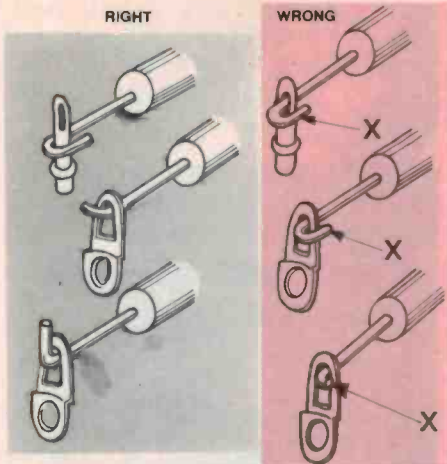

Figure 29. The best way to attach component leads to tags and terminals (left).
**Solder Tags and Terminals with Holes** are found on tagstrips, potentiometers, switches, etc. The best methods of connecting leads to them are shown in Figure 29(a). In each case, there is adequate contact between the lead and terminal and the lead can be easily removed if necessary later. Do not wrap the component lead right around the terminal as this makes subsequent removal difficult and
messy, but if the lead is not bent around the terminal at all too much dependence is placed on the solder for both mechanical and electrical connection. The *wrong* ways are illustrated in Figure 29(b).
Where the terminal holes are in line (i.e. coaxial), bend one lead around one terminal as illustrated in Figure 29 and pass the other lead through the other terminal without bending it. Solder the bent lead first. Tension it against the terminal while soldering. Arrange a little slack in the leads before soldering the remaining lead (Figure 31a). If the